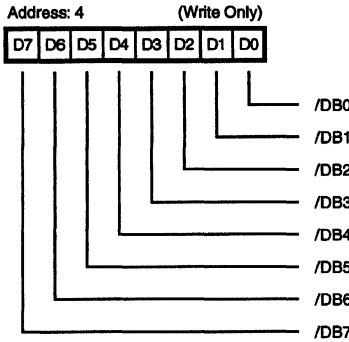

Figure 26. Select Enable Register
**Select Enable Register Address 4 (Write Only).** The Select Enable Register (Figure 26) is a write-only register which is used as a mask to monitor a signal ID during a selection attempt. The simultaneous occurrence of the correct ID bit, /BSY false, and /SEL true will cause an interrupt. This interrupt can be disabled by resetting all bits in this register. If the Enable Parity Checking bit (Mode Register, bit 5) is active (1), parity is checked during selection.